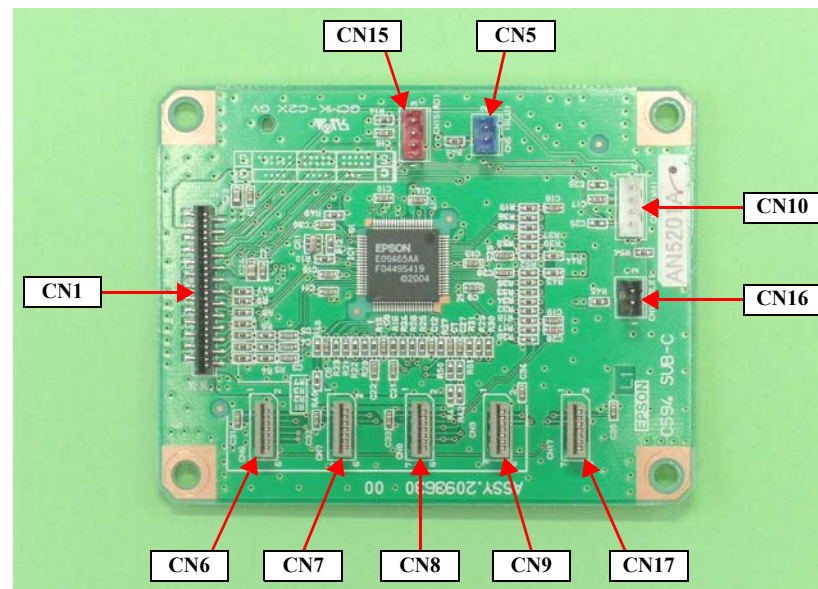

Figure 4-49. Connector Locations
2. Disconnect the all connectors and FFCs from the BOARD ASSY., SUB; C. *See Figure 4-49.*